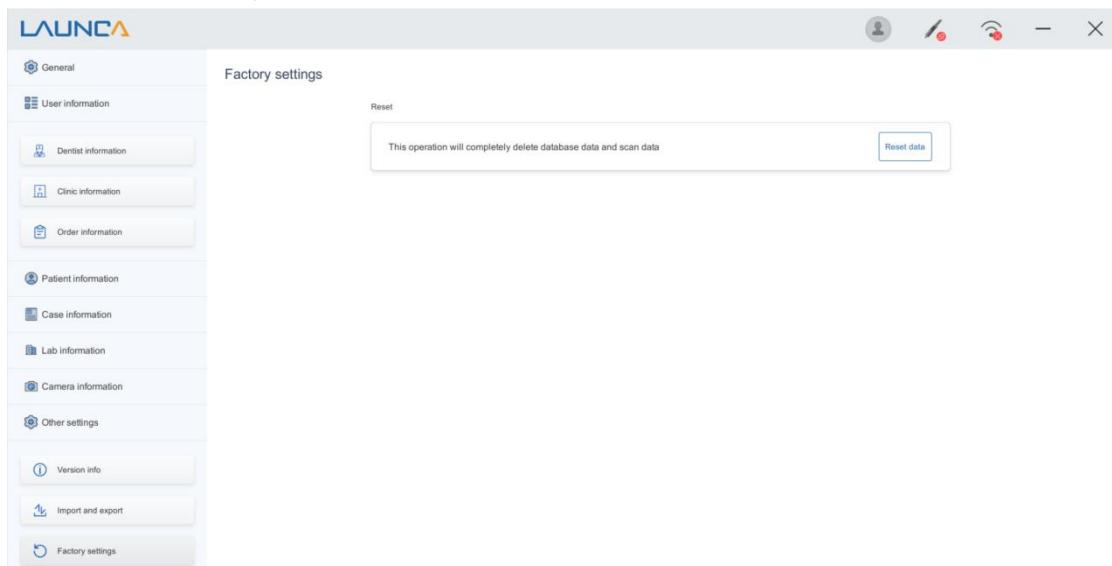

Fig. 3-20
**Factory settings:** This is factory reset, this operation wil completely delete database data,as shown in Fig. 3-20.